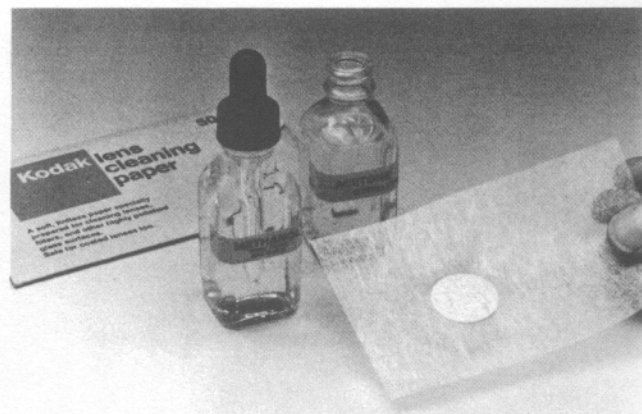

Figure 2
- 4. Lower the lens tissue onto the mirror and pull it across the mirror. (Figure 2.) Note that the dry part of the tissue helps remove any acetone residue.